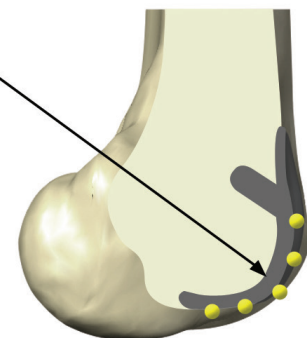

Figure 7
3. Collect three cartilage points on each of the medial and lateral distal PF transition zones (Figure 7).